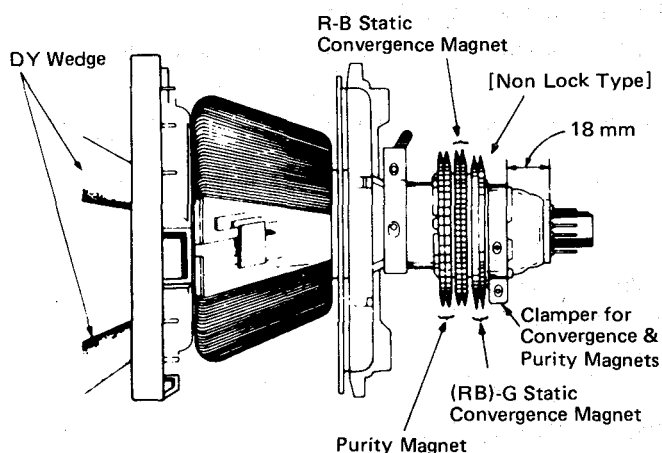

Fig. 4
- When Convergence Yoke is removed, set it at the position shown in Fig. 4.